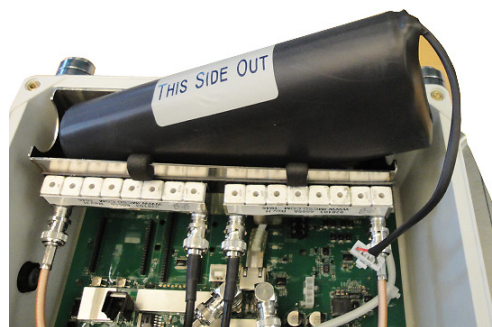

Figure 17: Battery Removal
4. Place new battery in unit with the battery label ("This Side Out") visible and upright (see "Figure 17: Battery Removal" on page 15).